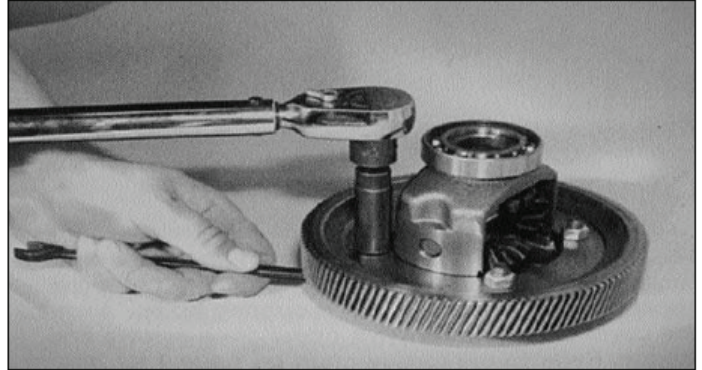

Figure 7-26. Torquing Differential Case Nuts
8. After flanged side bearing is seated past snap ring groove, install snap ring (16). Repeat procedure for opposite side bearing and snap ring.
9. Position differential case assembly (4) with flanged side trunnion face down on work surface. Align output gear (5) mounting holes with differential case. Install four bolts (6) and nuts (7). Bolts should be installed from differential flange side. Torque nuts to 35-45 ft. lbs. (47-61 Nm). See Figure 7-26.
10. Differential bearings (8) can be installed on differential case (4) before or after installing ring gear. Use care not to damage differential bearings or final gear (5) when installing the opposite component.